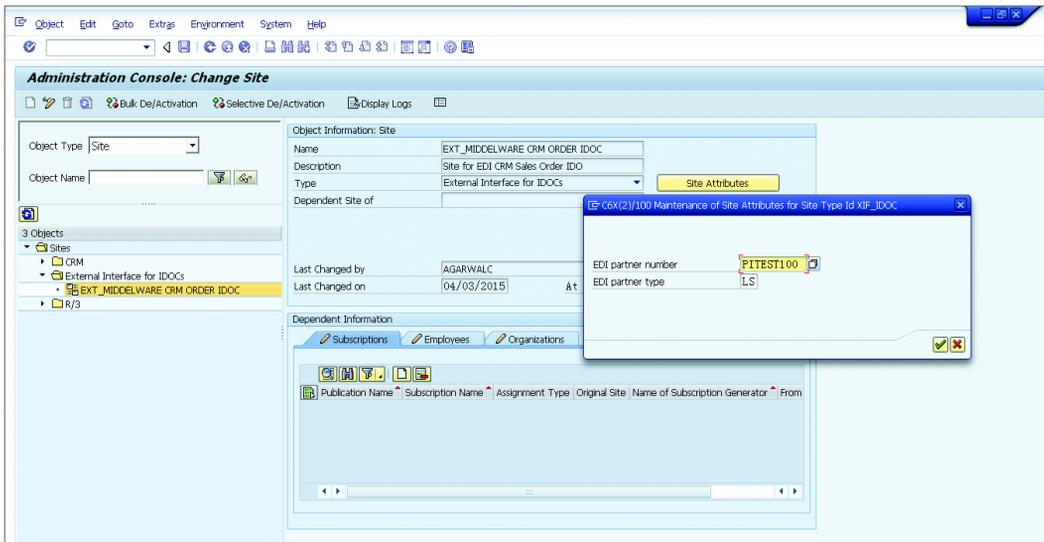

Figure 3.41 Creating the Site for the Receiving Partner
- Create a SITE for the XIF for the IDocs, and assign the site attributes with the receiving partner as shown in Figure 3.41.